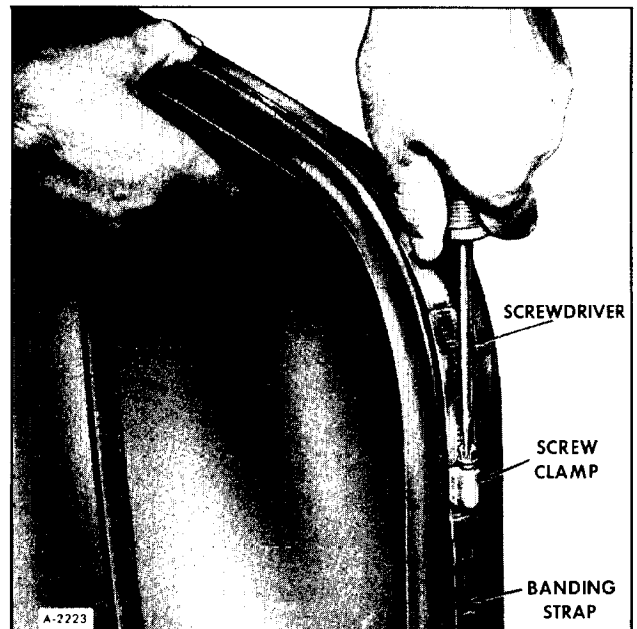
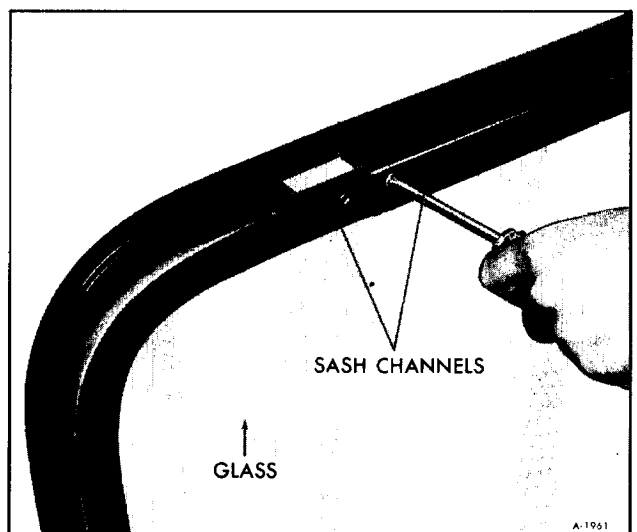

Figure 7—Removing Sash Banding Strap
Figure 8—Disassembling Sash
2. Remove the banding strap, if equipped, as shown in figure 7, then disassemble sash assembly as shown in Figure 8.
2. Referring to Figure 7 and 8, assemble sash.